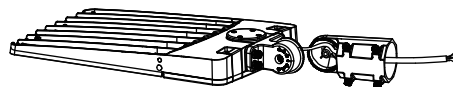

Figure 1
- Step 1: Remove the bracket mounting screws on the fixture and pass the wires through the bracket (Figure 1)